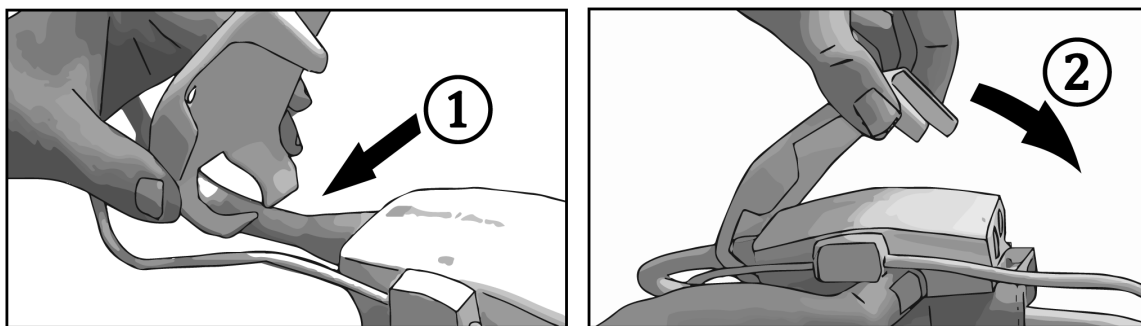

Figure B-1: Applying pressure controller cover
2. Place the pressure controller cover's back mounting notch around the pressure controller cable. See step 1 in Figure B-1 on page 334.
3. Snap the pressure controller cover over the pressure controller, making sure that the pressure controller cover does not interfere with the heart reference sensor (HRS) connection. See step 2 in Figure B-1 on page 334.